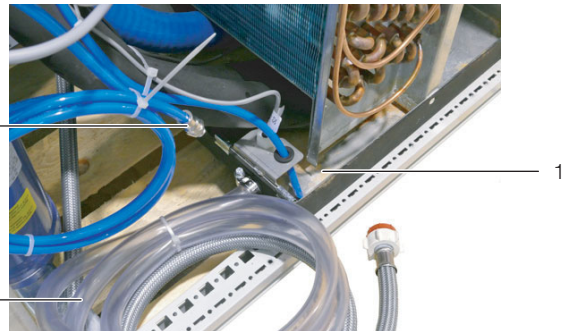

Fig. 23: Condensate discharge
Any condensate which may develop is collected in the condensate collecting tray (fig. 23, item 1) beneath the heat exchanger.
A hose ($\varnothing_i = 16$ mm, length = 2 m) is connected to the condensate discharge in the factory (fig. 23, item 2). This hose, in turn, must be routed to a drain with odour seal by the customer, so that any condensate can be discharged from the device. The LCP DX may optionally be fitted with a condensate pump in addition to this (see section 15.5 "Condensate pump").